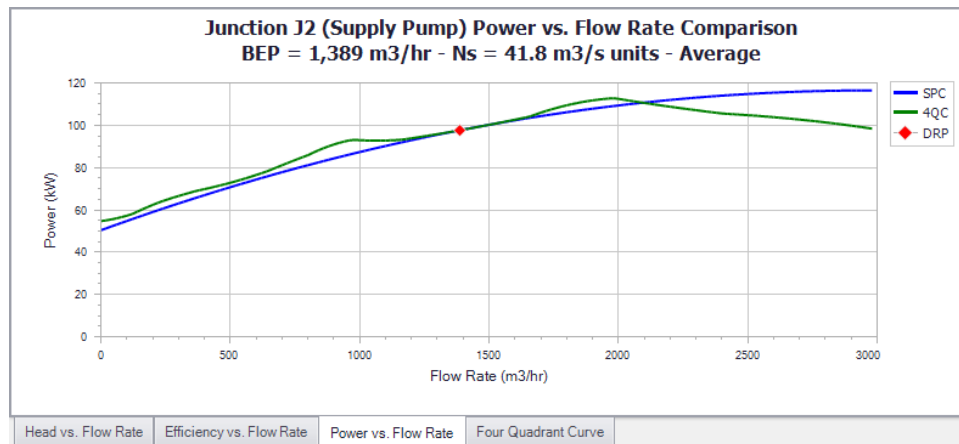

Figure 8: Power vs Flow graph from the Specify Four Quadrant window for the $N_s = 41.8$ m3/s units data set dimensionalized using the BEP
1. In the current Four Quadrant Curve Scenario check that BEP is selected for the DRP (dimensional reference point). Note that the head, efficiency, and power curves versus flow can be seen plotted against the Standard Pump Curve (referred to as the manufacturer's curve for this example) at the bottom of this window, as shown below for head in Figure 7 and power in Figure 8.
Note: The raw data from the graphs shown in the Specify Four Quadrant Model window (Figure 7 and Figure 8) can be copied using the Copy Data button at the bottom of the window to compare this data for all scenarios in Microsoft Excel.
Each individual four quadrant curve can be compared to the manufacturer's curve within the Specify Four Quadrant Model window in Impulse, as was seen above in Figure 7 and Figure 8 for the 41.8 m³/s units data set. Each four quadrant curve will intersect the manufacturer's curve at the dimensional reference point, which is shown in red (1,389 m³/hr, see Figure 4 BEP). For the head, power, and efficiency curves we will want to check how similar the shapes of the curves are and how close they are to each other. Focus should be given in particular to how well the curves match near the initial and final steady state flow rates, as this will indicate how different those operating points will be.